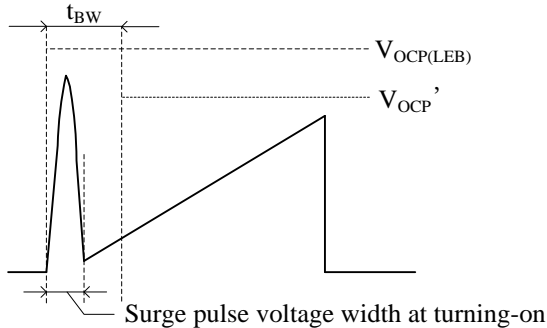
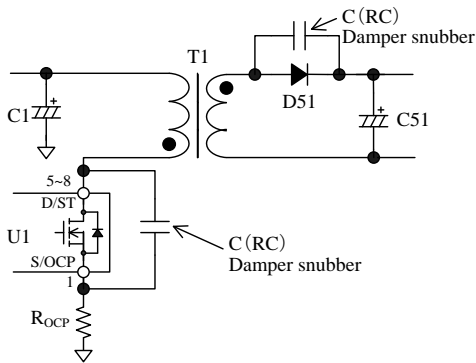

Figure 10-12. S/OCP Pin Voltage
Figure 10-13. Damper Snubber
During the leading edge blanking time, the OCP threshold voltage becomes  $V_{OCP(LEB)} = 1.69 \text{ V}$  which is higher than the normal OCP threshold voltage as shown in Figure 10-12. Changing to this threshold voltage prevents the IC from responding to the surge voltage in
When the power MOSFET turns on, the surge voltage width of the S/OCP pin should be less than  $t_{BW}$ , as shown in Figure 10-12. In order to prevent surge voltage, pay extra attention to  $R_{OCP}$  trace layout (see Section 11.2). In addition, if a C (RC) damper snubber of Figure 10-13 is used, reduce the capacitor value of damper snubber.